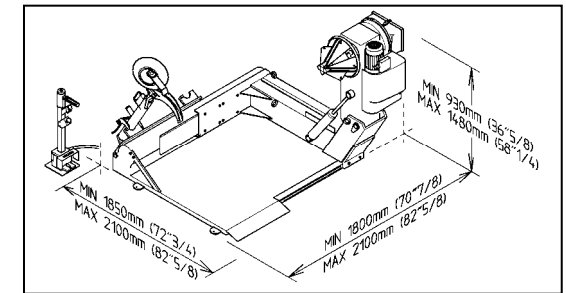

Fig.2
1.6 DIMENSIONS OF THE MACHINE (Fig.2)
1.6 DIMENSIONS DE LA MACHINE (Fig.2)
1.6 MASCHINENABMESSUNGEN (Abb.2)